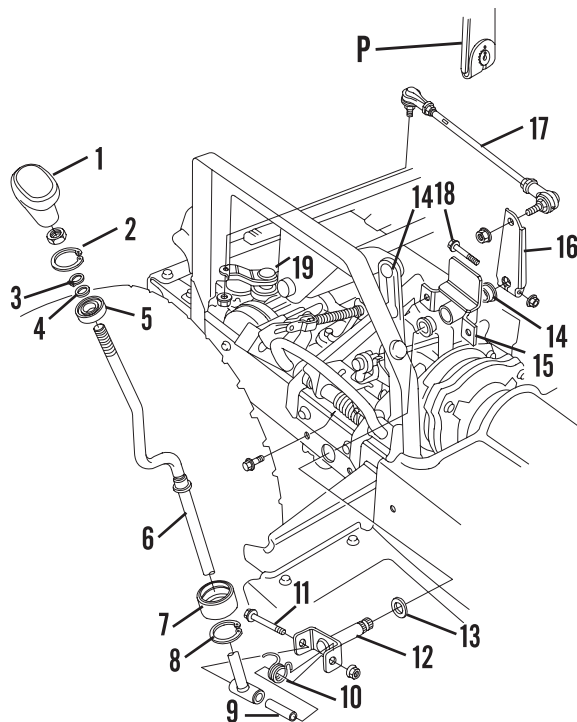

Fig. HN1-18—Exploded view of shift linkage.
The punch marks (P—Fig. HN1-18) on the shift lever shaft (12) and shifter arm (16) must be aligned.
To remove the shift linkage, remove the shift lever knob (1—Fig. HN1-18), seat and rear fenders. Remove the pivot bolt (11) and withdraw the shift lever (6). Remove the snap rings (2 and 3) and thrust washer (4). Pull the clutch roller (7) and bearing (5) off the shift lever.